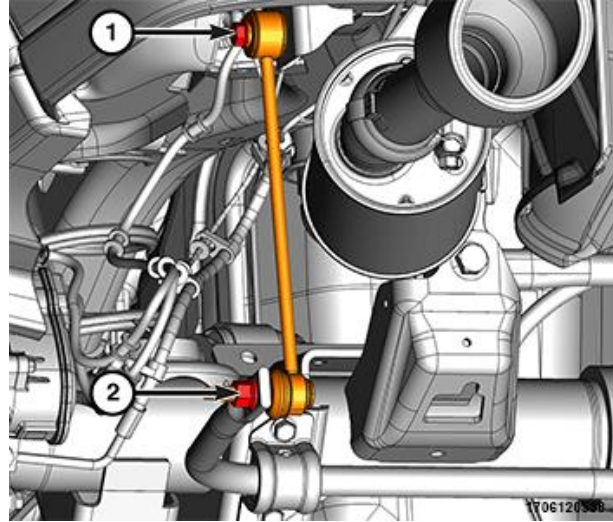

Figure 12 – Stabilizer Bar Link Upper Bolt
3. Disconnect the stabilizer bar links from the frame by removing the stabilizer bar link upper bolts (1) (Figure 12).
5. Align the stabilizer bar link upper bolt hole to the frame then install stabilizer bar link upper bolt (1) but do not tighten at this time (Figure 12).